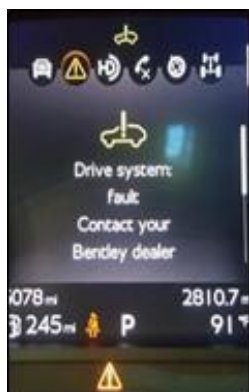

Figure 1
- Referring to Figure 1 - Warning lamp illuminated within the Drivers Information Panel (DIP)